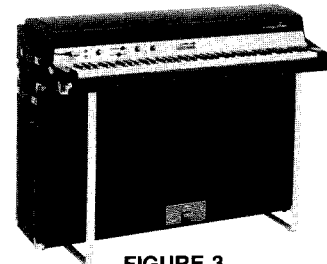
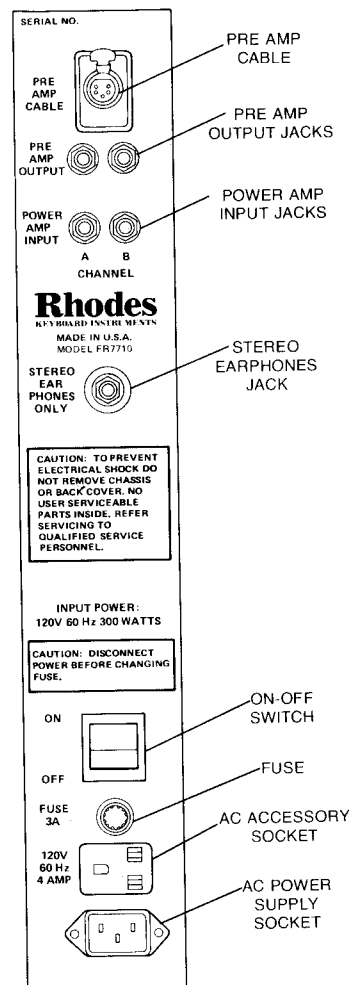

FIGURE 3
FIGURE 5
3. Unfasten the snap lock at each end of the Keyboard Case. Rotate the top cover up and back. The hinges at the back of the Keyboard Case cover are the disconnecting type. When the top is rotated back, it can be lifted off the Keyboard Case (Fig. 3).
4. The Pre Amp to Power Amp Signal Cable is packed in a compartment inside the Keyboard Case Top. The AC Power Cord is packed separately in the Speaker Enclosure Carton. Connect the Signal Cable to the Piano Keyboard Control Panel (Power Amp Cable Socket, Figs. 3 and 4). Also connect the Signal Cable to the Speaker Enclosure Panel located on the left side of the Speaker Enclosure (Pre-amp Cable Socket, Figs. 3 and 5). Connect the AC Power Cord to the Speaker Enclosure Panel (Power Supply Socket, Fig. 5). Then plug it into a 120 volt 60 Hz AC source.